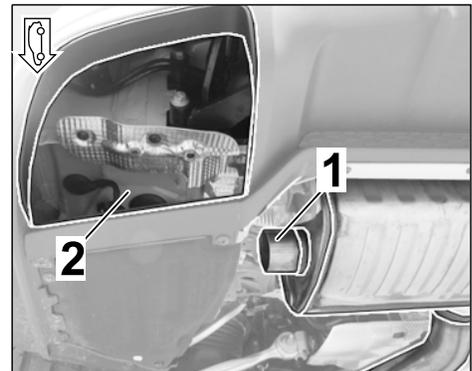

Figure 5
1.4 Clean rear muffler connection piece with sandpaper if necessary (⇒ *Figure 5*).